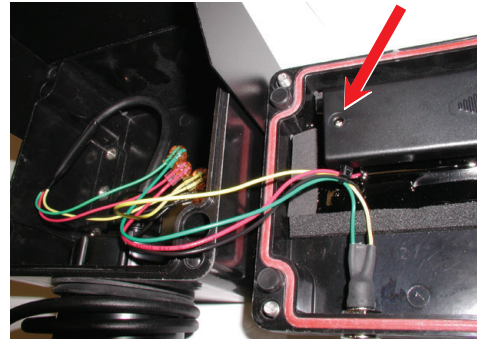

Figure 4: Battery cover and screw
- Loosen the small screw on the battery cover, then remove the battery cover. See arrow in Figure 4.